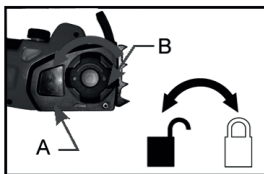

Fig 5B
1. Undo the side cover knob a few turns (Fig. 5B).